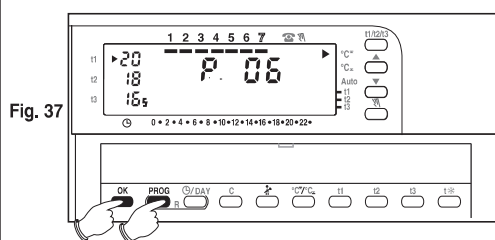

Fig. 37
- Press **PROG** repeatedly until **P 06**, appears on the display, then press **OK** to confirm (fig. 37).